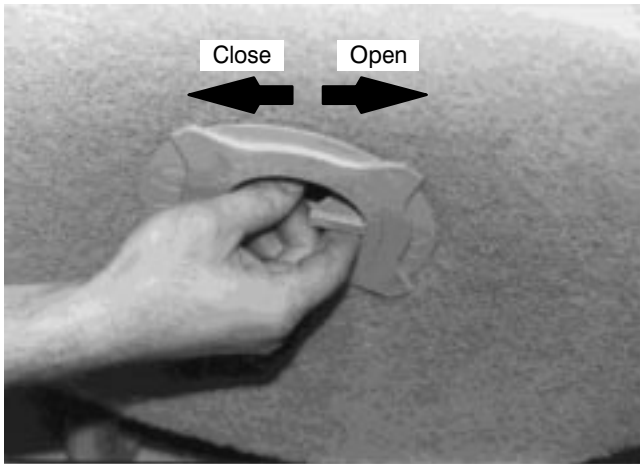

FIG. 3.
3. Remove the plastic centerlock from the pad driver by turning it clockwise. Position the pad accurately centered on the pad driver, and screw the centerlock in place counter-clockwise until it is tight (*Figure 3*).
1. Remove burnishing pad. Clean and replace or install a new pad (*Refer to Figure 3*).